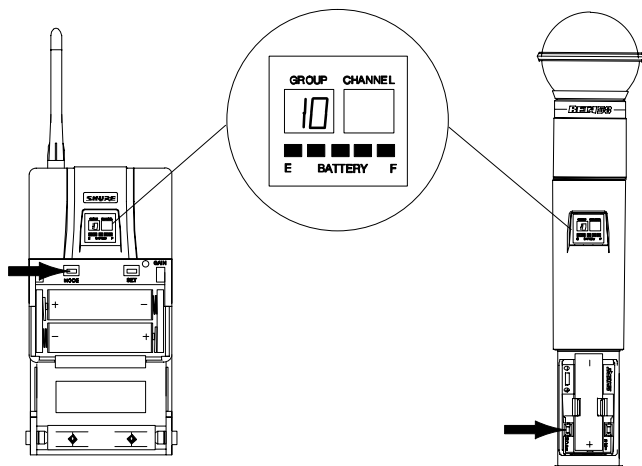

FIGURE 38
3. Press and hold down the MODE button until only the Group number is displayed, as shown in Figure 38.